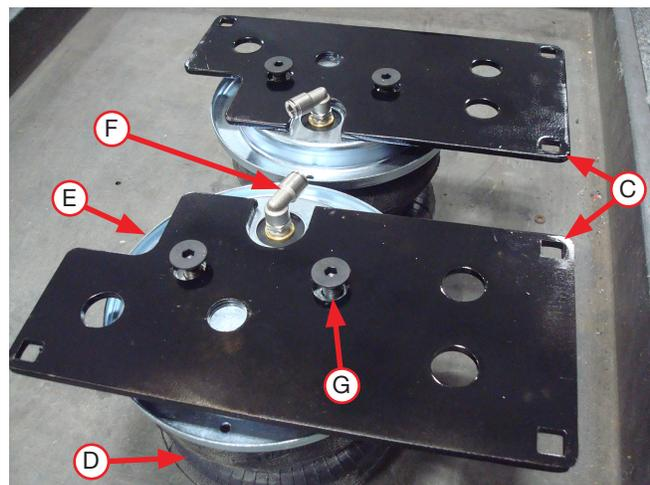

Fig. 14
1. Set the roll plates (E) on top of the air springs (D). Thread the fittings (F) into the air springs finger-tight, then tighten one and a half turns. With the fittings facing each other on both air springs (Fig. 14), set the air spring brackets (C) on top of the assemblies making sure the notches on the brackets are facing each other. Install the 3/8" flat head screws (G) finger-tight, then torque to no more than 20 lb.-ft. (27Nm).